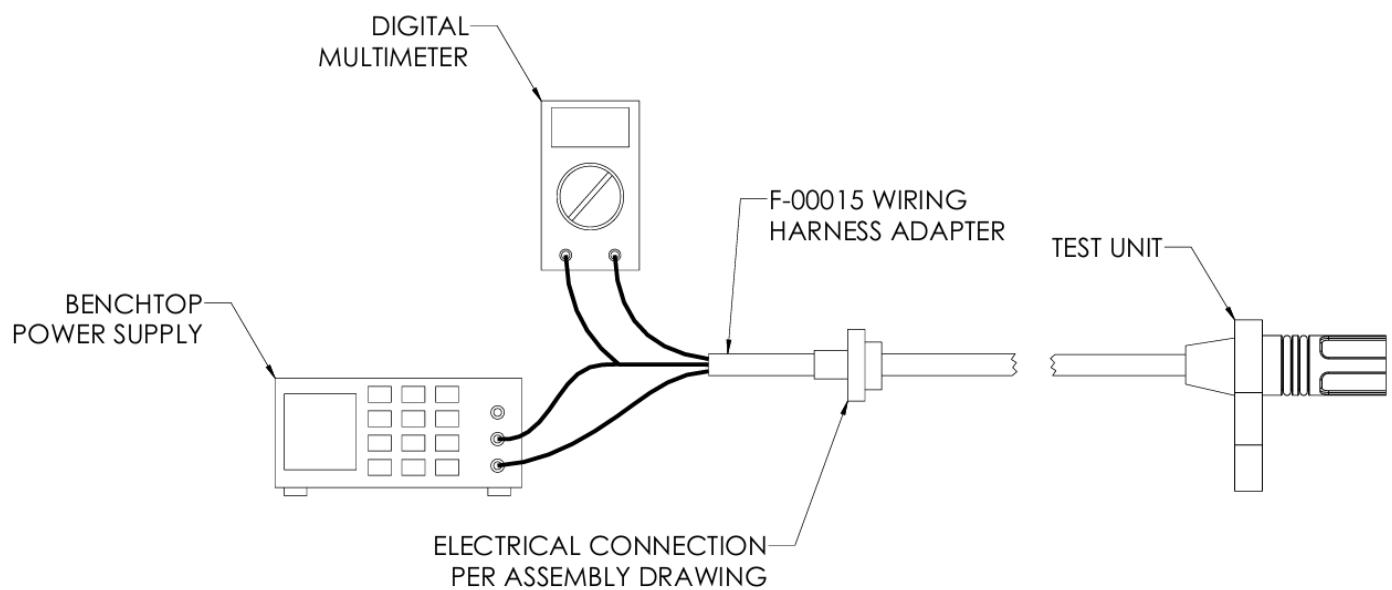

FIGURE 2: FERROUS SENSITIVITY TEST SETUP
- 9.6.1 Wire the test unit to as shown in Figure 2.